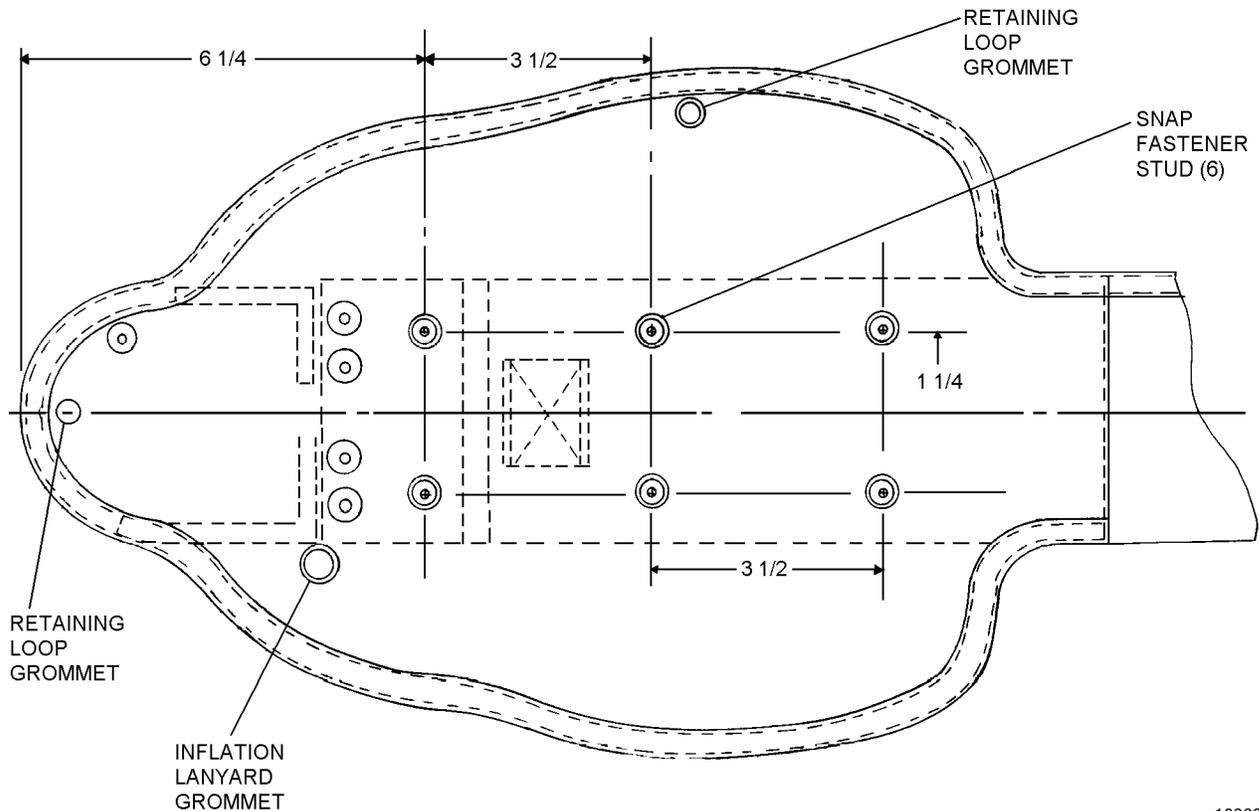

Figure 26-14. Installation Casing Attachment Patch Snap Fastener Studs
2. Measure and mark snap fastener positions using dimensions in figure 26-14. Remove restraints from casing.